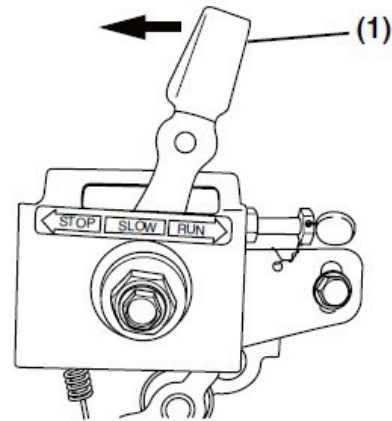

Figure 14
1. If your engine speed control is similar to **Figure 14** slide the engine speed control lever (**Figure 14, (1)**) in the direction shown to adjust the engine speed.